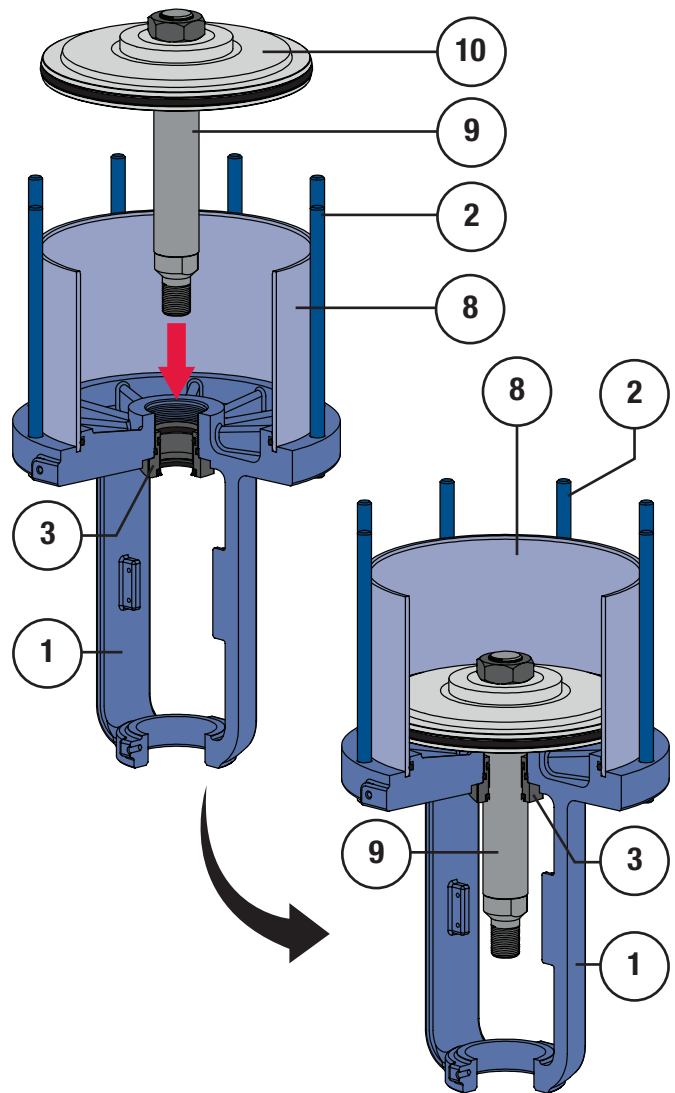

Figure 25 Piston Assembly Installation
- 6 Slide the piston assembly (Keys 7, 9, 10 & 11) through the bushing (Key 3) or travel stop (Key 25) and down into the cylinder (Key 8) as shown in Figure 25.